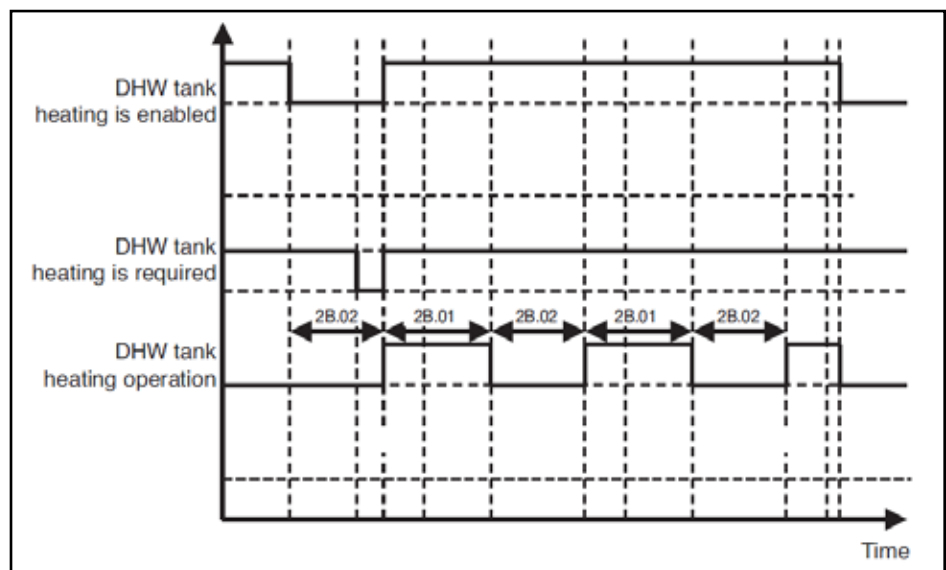

Figure 63: DHW Tank Heating - Time Duration and Time Spans
- Refer to Figure 63 for examples of a timing sequence chart.